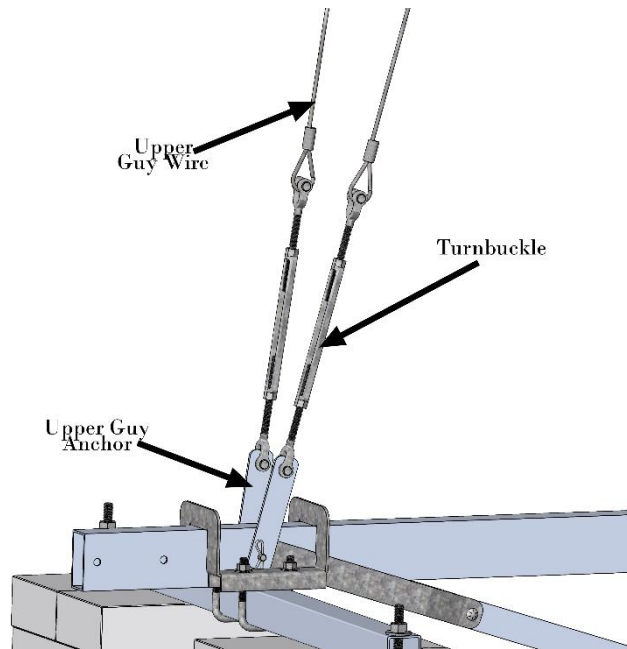

Figure 51 Turnbuckle connection
6. Arrange all the turnbuckles so they will tighten when turned clockwise with left hand thread at the top as per Figure 51.
7. Attach all (6) turnbuckles to the upper guy anchors.
8. Attach (4) guy wires to the turnbuckles furthest away from the winch.